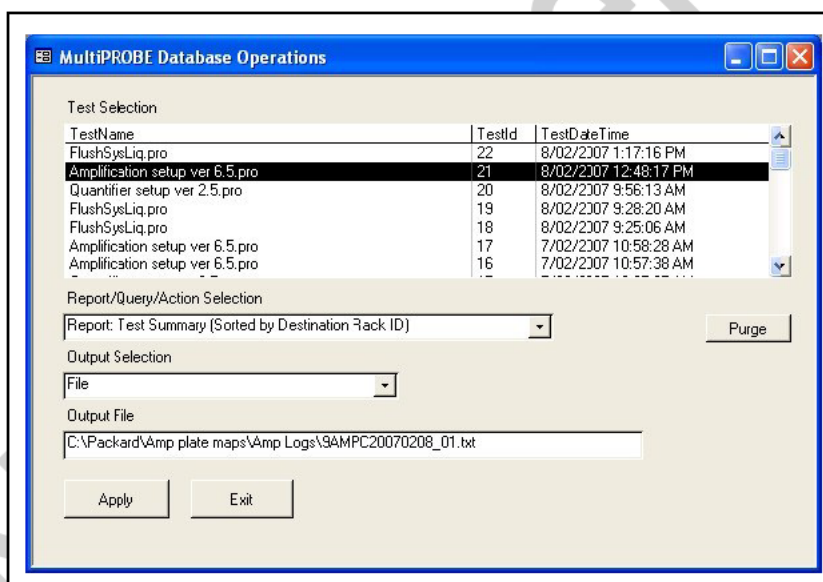

Figure 9. The MultiPROBE log database for collecting MP II run information
50. In the Output Selection dropdown menu, select "File". Save the output file as *.csv format to **C:\PACKARD\EXT PLATE MAPS\EXT LOGS** with the same name as the AUSLAB batch ID and click "**Apply**". (refer to Figure 9. below)